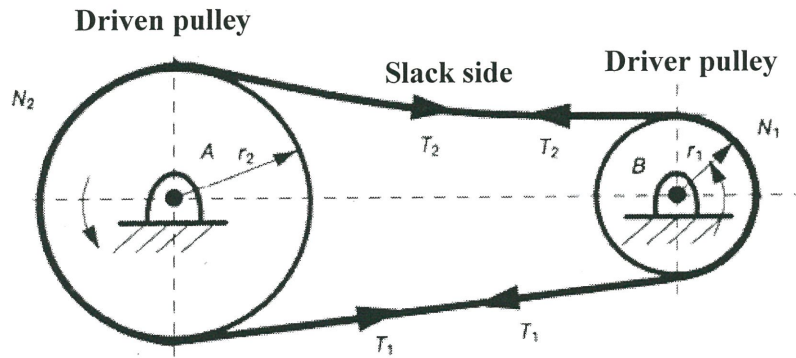

Figure Q1(b)
- (b) The slack side of the belt drive is preferable to place on the top side as shown in **FIGURE Q1(b)**. Discuss the possible reason behind this. (3 marks)
- (a) Gears can be classified according to the relative position of the axes of mating gears. Describe the types of axes of the mating gears and give ONE (1) example for each type. (6 marks)